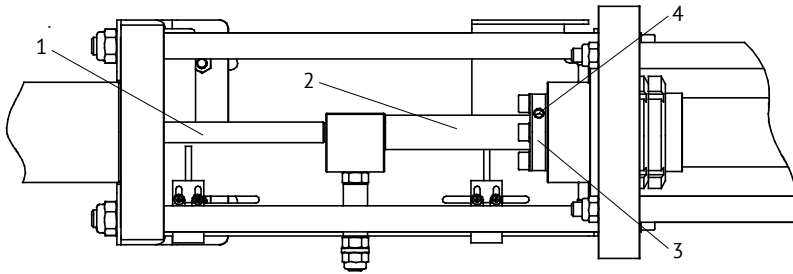

Fig. 8. Power unit with removed cover:
- remove old grease from the screw of ball-and-screw unit (BSU) 2, fig. 8;